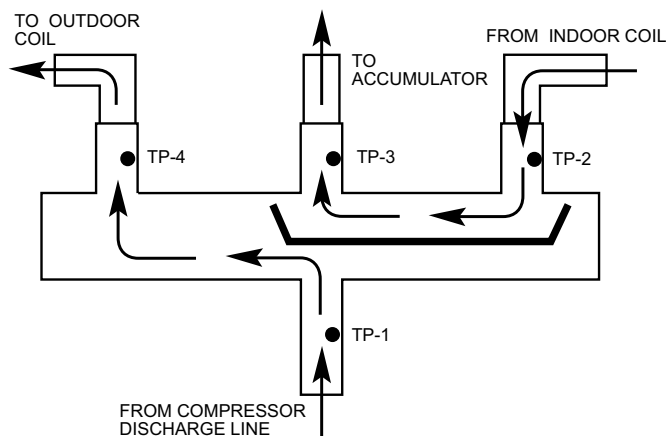
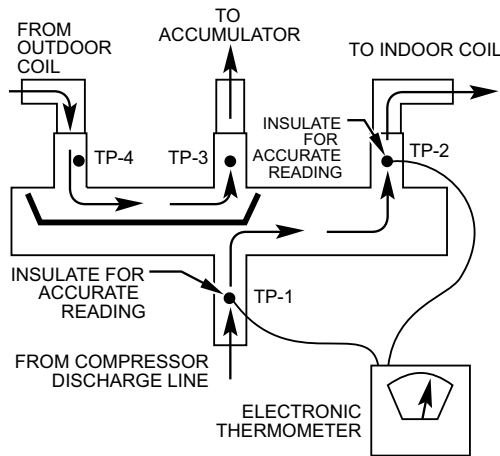

Fig. 19 – Reversing Valve (Cooling Mode or Defrost Mode, Solenoid Energized)
Fig. 20 – Reversing Valve (Heating Mode, Solenoid De-Energized) ^{A10188}
Using a remote measuring device, check inlet and outlet line temperatures. DO NOT touch lines. If reversing valve is operating normally, inlet and outlet temperatures on appropriate lines should be close to each other. Any difference would be due to heat loss or gain across valve body. Temperatures are best checked with a remote reading electronic-type thermometer with multiple probes. Route thermocouple leads to inside of coil area through service valve mounting plate area underneath coil. Fig. 19 and Fig. 20 show test points (TP) on reversing valve for recording temperatures. Insulate points for more accurate reading.